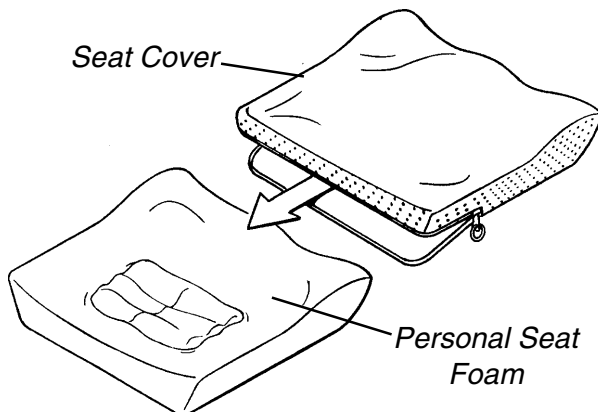

FIGURE 1 - REMOVE PERSONAL SEAT FOAM FROM SEAT COVER
INSTALLING THE CUSHION RIGIDIZER (FIGURES 1, 2 & 3)
2. Open seat cover and remove the Personal Seat Foam (FIGURE 1).